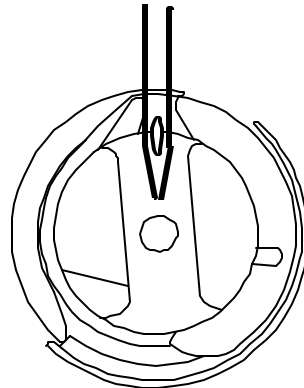

Figure 13
44. **Adjust** by moving Needle Bar Driver up or down so $\frac{1}{2}$ of needle eyelet is viewed in hook basket. See Figure 13.